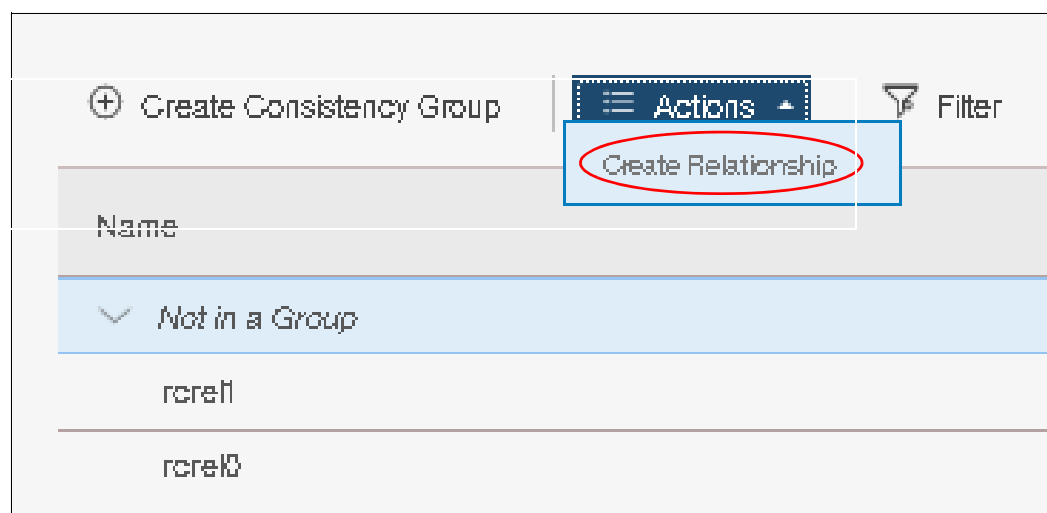

Figure 10-100 Create Relationship action
3. Click **Create Relationship**, as shown in Figure 10-100.